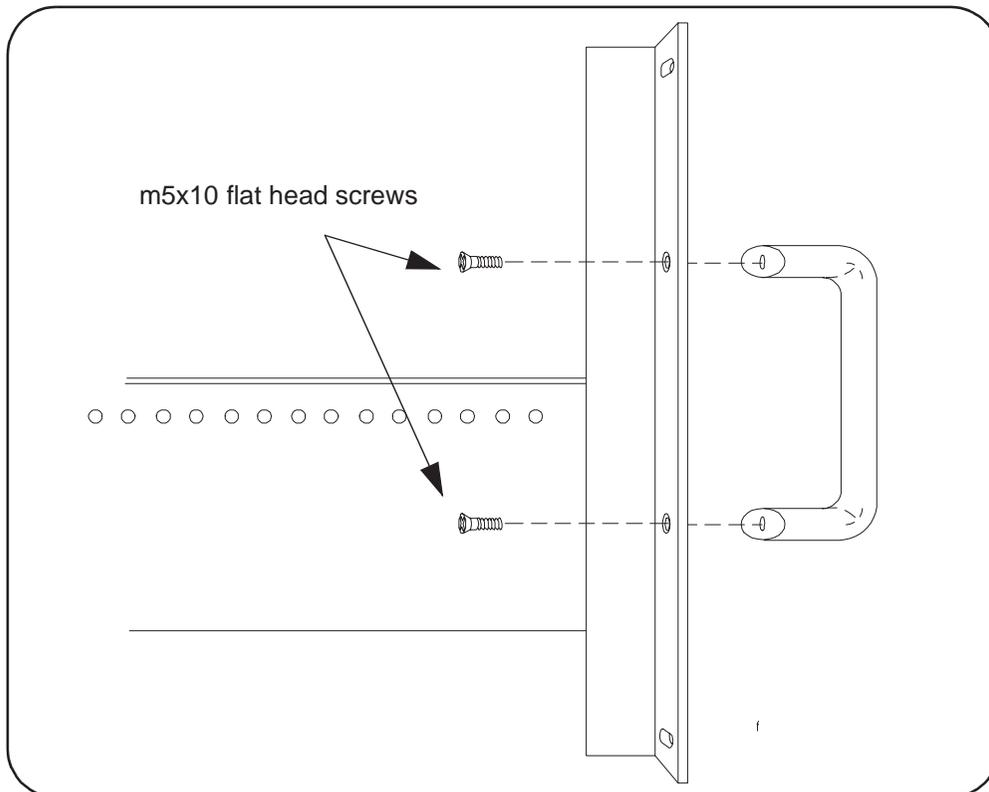

Figure 2-1. Attaching Handles to the Adapters (Standard kit p/n E8400-80923).
1. Attach the handles to the adapters using the m5x10 flat head screws (Figure 2-1). Handles are included only with the HP E8400A Standard Adapter Kit (p/n E8400-80923).